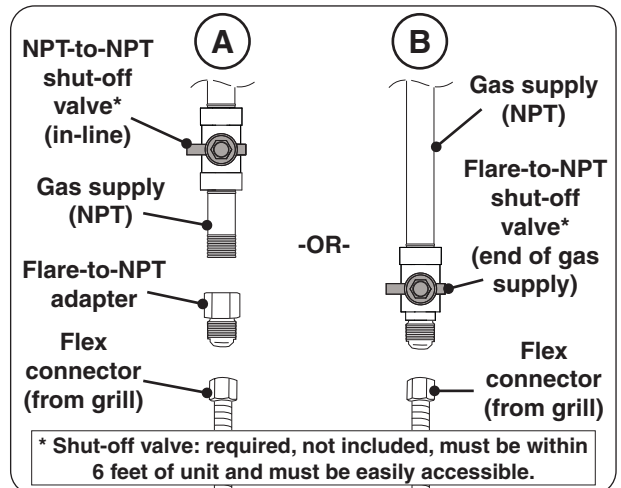

Fig. 19-2 Connecting to a gas line
- Install the supplied flare-to-NPT adapter to the gas supply (NPT) using a pipe joint compound resistant to all gasses (see Fig. 19-2, A). Tighten securely.
- Connect the flex connector to the adapter (see Fig. 19-2, A). Tighten securely.
- Connect the flex connector to the shut-off valve (flare) (see Fig. 19-2, B). Tighten securely.